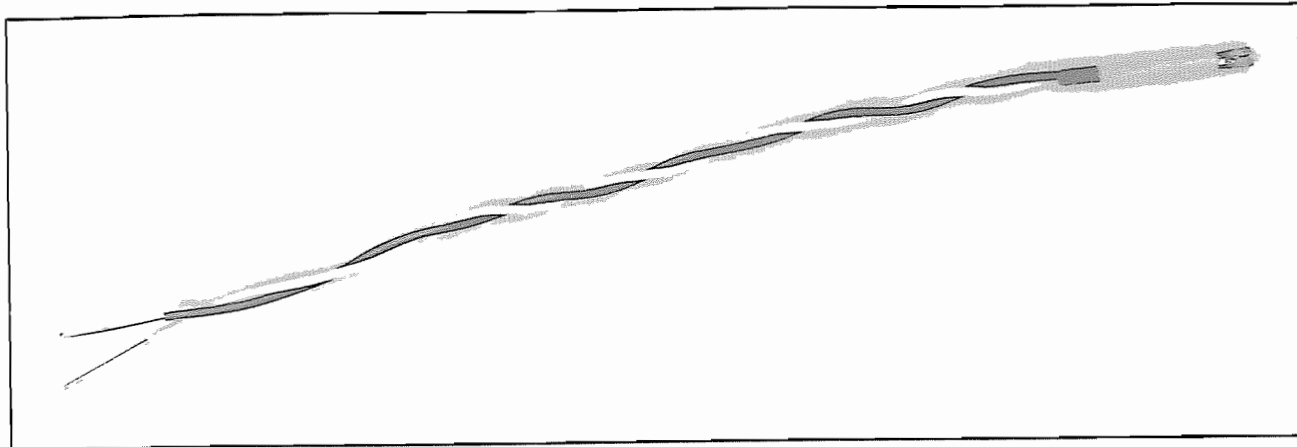

Figure 17-1. A finished paper-match igniter.
You can make a **paper-match igniter** (Figure 17-1) right at the launch site. You can use it immediately, and you can bring the materials with you.
4. Wrap the whole thing together with the square of masking tape. Then twist the lead wires together, and the igniter is finished (Figure 17-1).